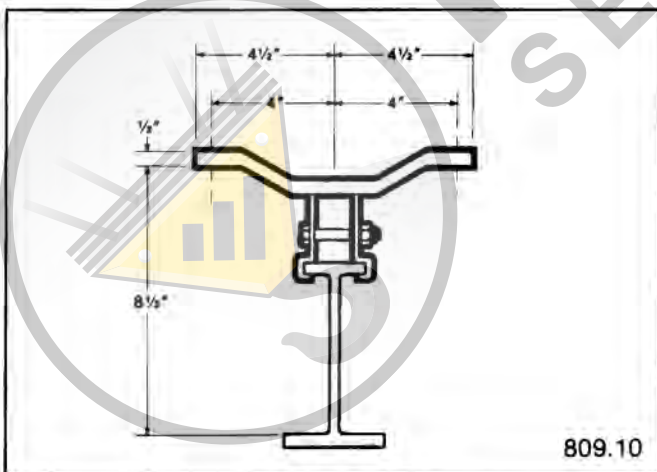

FIGURE 30
Conductor bar support brackets do not include support insulators or hanger clamp assemblies. A wide range of conductor bar support brackets are available as shown in Figures 30 through 42 and as described below. For additional information or detailed specifications, refer to LOUDEN® catalog information, or contact Acco Chain & Lifting Products, York, Pennsylvania or the distributor of LOUDEN® products.
- 809.10 (Refer to Figure 30): For 4-wire (2-run) dual conductor bottom-entry electrification at 8½" above operating flange surface of 603.6 *SuperTrack™*.